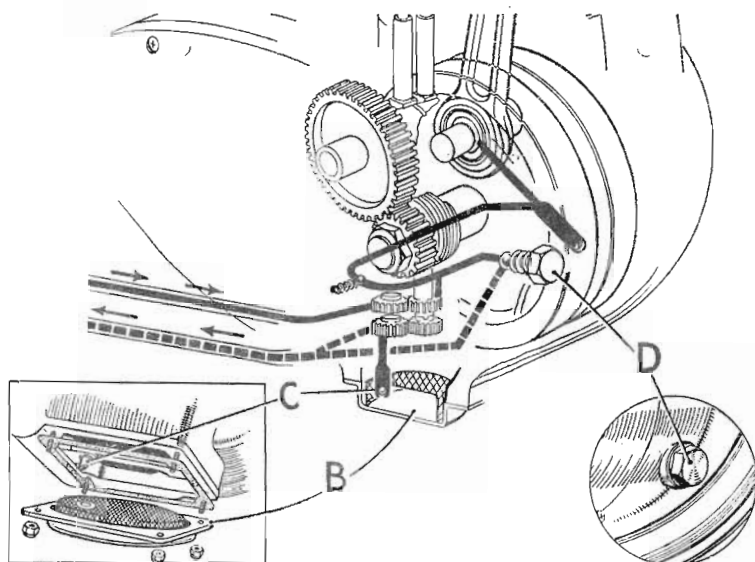

FIG. 3. The engine lubrication system, showing the ball valve and filter.
After lubricating the engine, the oil flows down through a filter in the bottom of the crankcase into a small sump, from which it is drawn by the scavenge pump past the ball valve (C) and delivered to the tank via a special filter (Fig. 3).
A by-pass valve (D) Fig. 3, ensures a constant pressure in the system. This valve must not be removed.
When the crankcase filter (B) Fig. 3 is removed for cleaning in accordance with the instructions contained in the Servicing Schedule, check the action of the ball valve (C) Fig. 3.
Remove the crankcase shield and then the crankcase sump plate (B) Fig. 3, which carries a filter. Take care when removing the filter that it is not damaged by the oil pump scavenge pipe (carrying ball valve C, Fig. 3). Wash the filter and cover plate in petrol. When replacing, new gaskets should be fitted as required. Refit the crankcase shield.